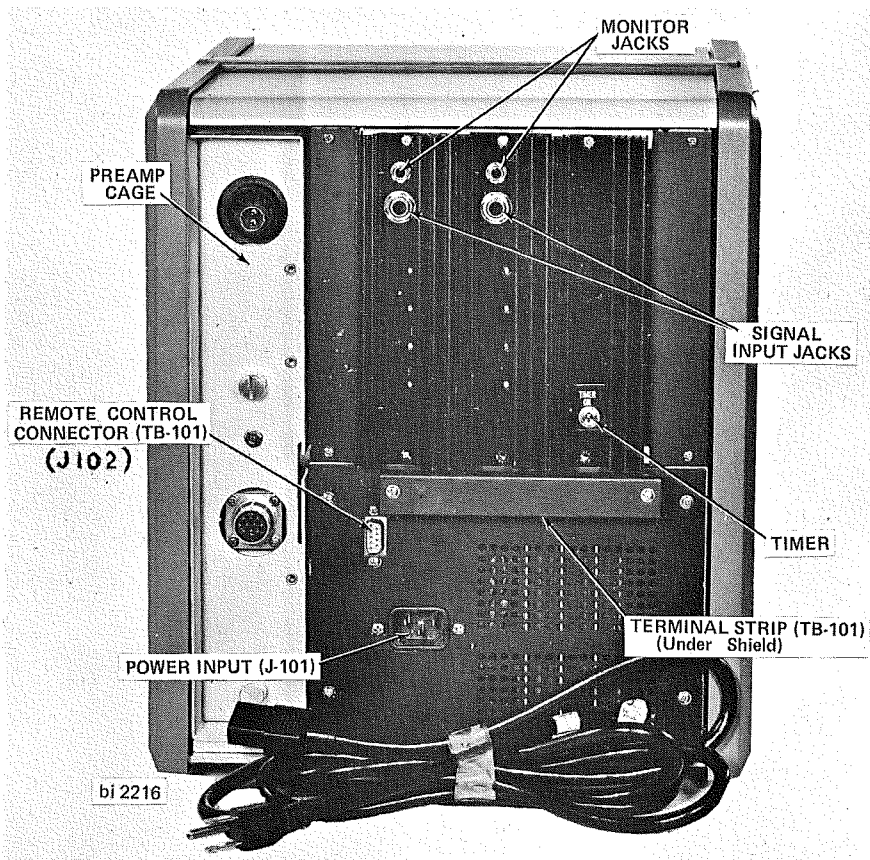

FIGURE 3-2 REAR PANEL
Figure 3-2 illustrates the recorder rear panel. The list that follows corresponds to the items called out on Figure 3-2.
2. Loosen the two screws which secure Control/Timer board and pull board out of recorder. (See Fig. 3-2).